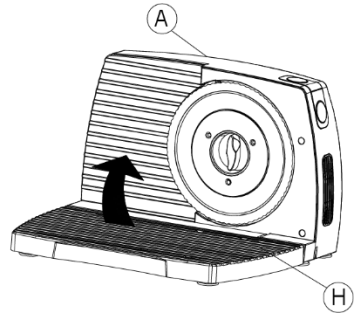

fig.12
8. For storage align the face plate to 0 on the thickness guide and fold the base (fig. 12) to protect against accidental contact with blade. Place out of the reach of children.